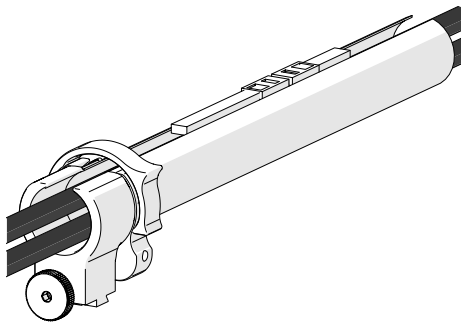

Fig. 71 - Zip opposite end
3. Once the cable is placed the entire length of the tube, bring the zipper from the tube's opposite end, meeting at any point in the middle (Fig. 71).